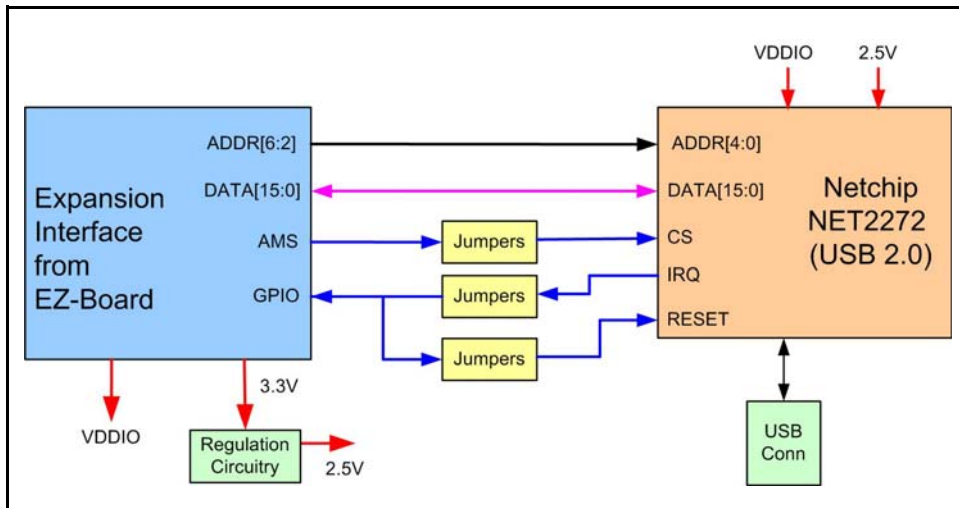

Figure 2-1. Block Diagram
3. Set the jumpers on the Blackfin/SHARC USB EZ-Extender board. Use the block diagram in Figure 2-1 on page 2-2 in conjunction with “Jumper Settings” on page 2-3.
A block diagram of the Blackfin/SHARC USB EZ-Extender is shown in Figure 2-1.